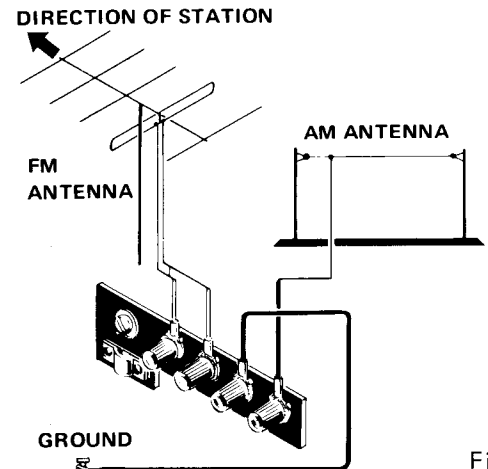

Fig. 6
- If orientation of the T-type antenna does not eliminate background noise, connect an FM outdoor antenna to the antenna terminals as shown in Fig. 6. Instead of a special FM antenna, a combination FM/TV antenna may be used.
- If the lead antenna does not give satisfactory results, erect an AM outdoor antenna and connect it as shown in Fig. 6. Special construction is not required: vinyl-insulated wire may be stretched between two masts or other supports.